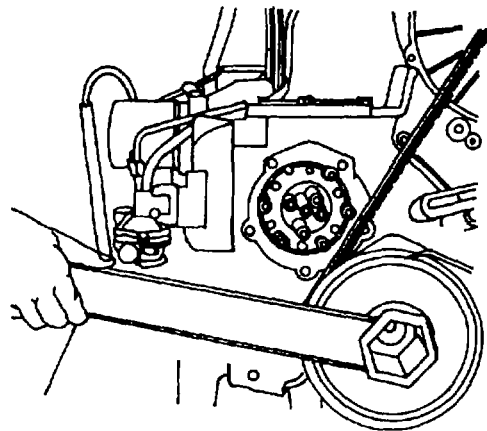

Figure 4-43. Rechecking Fuel Delivery
- m) Recheck the beginning of fuel delivery (figure 4-43).